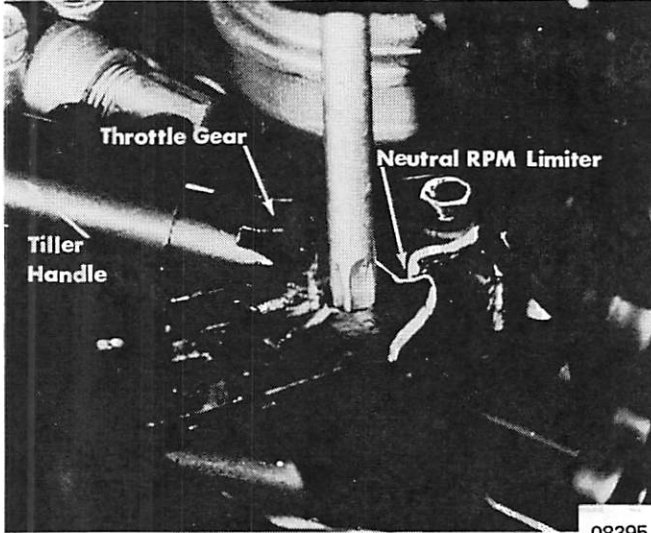

Figure 4. Neutral RPM Speed Limiter Adjustment
1. With engine running in neutral gear, loosen neutral RPM limiter screw (located in the bottom cowl). Move limiter toward rear of engine and tighten the screw only enough to place light tension on the speed limiter. (Figure 4)